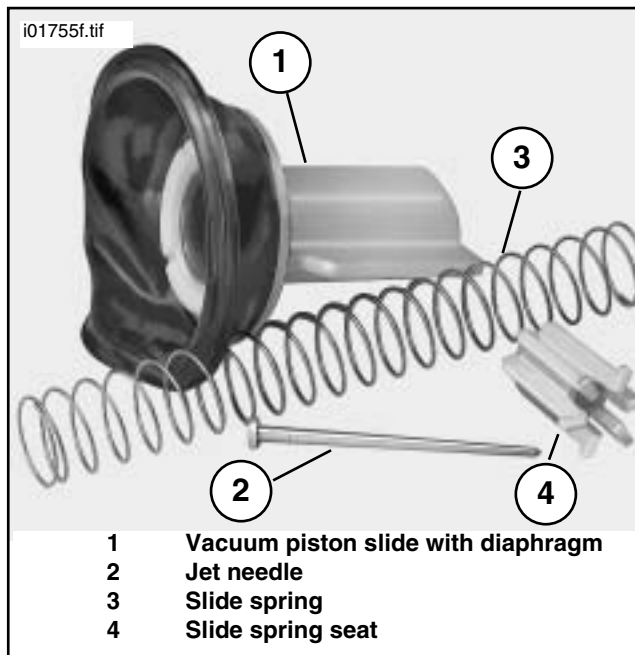

Figure 1. Vacuum Piston Chamber Slide Components
1. See Figure 1 and Service Parts Illustration. Remove the carburetor top, slide spring, spring seat, jet needle and metal vacuum piston slide.